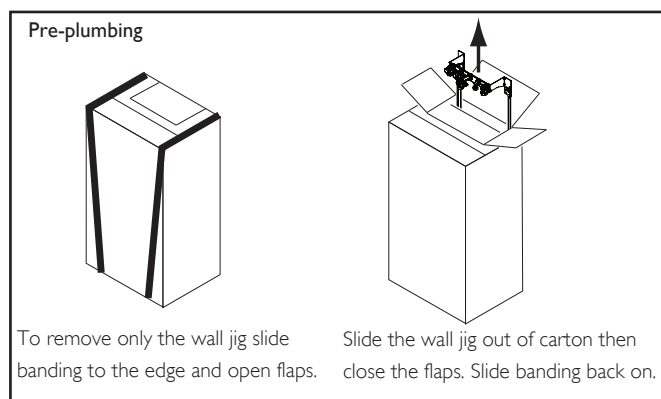

Fig. 23
3. If pre-plumbing (Fig. 23) - the wall jig and fitting kit can be removed without removing the carton sleeve. Simply slide banding to the edge and open the perforated flap, lift out the jig, fitting kit and instructions. If the boiler is to be installed at a later date, close the flap and reposition the banding straps, the boiler can now be stored safely away.